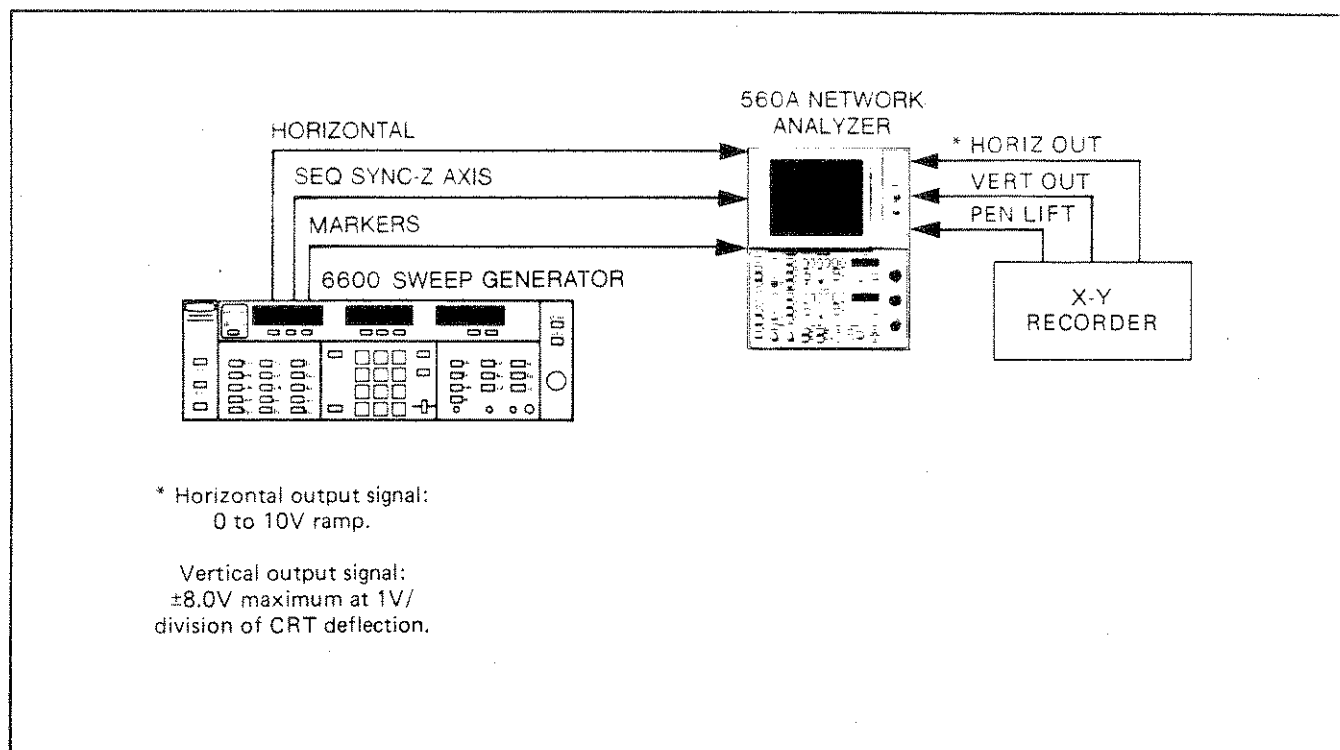

Figure 3-12. Equipment Setup for X-Y Recorder Setup
- d. X-Y PLOT-REFRESH Mode. In this mode, X-axis and Y-axis voltages come from the refresh circuitry. The 14 ms refresh ramp is slowed to 30 s and applied to the HORIZONTAL OUTPUT connector; the stored data in the refresh memory is applied to the VERTICAL OUTPUT connector. As described for REFRESH HOLD, above, new data is prevented from being written into the refresh memory during this mode. This mode is entered into when the X-Y PLOT pushbutton switch is depressed while the REFRESH pushbutton switch is depressed. Approximately one second after the 30 s sweep begins, the pen-lift relay causes the X-Y plotter's pen to drop. A delay of 500 ms prevents an erroneous line from being traced on the X-Y plotter's paper. In dual channel operation (both CHANNEL ON pushbutton switches depressed), the channels are plotted sequentially: first Channel A then Channel B. A one-second delay is provided between these two plots. Also, in either single or dual channel operation, the plot may be aborted by depressing X-Y PLOT a second time. For single channel operation, the indicator associated with the X-Y PLOT switch remains lit until the plot is completed; for dual channel operation, the indicator remains lit until both plots are completed. When the indicator goes out, the REFRESH sweep returns to the display. A procedure for setting the X and Y parameters on the recorder in preparation for making an X-Y plot is provided in Table 3-4; the equipment setup is shown in Figure 3-12.